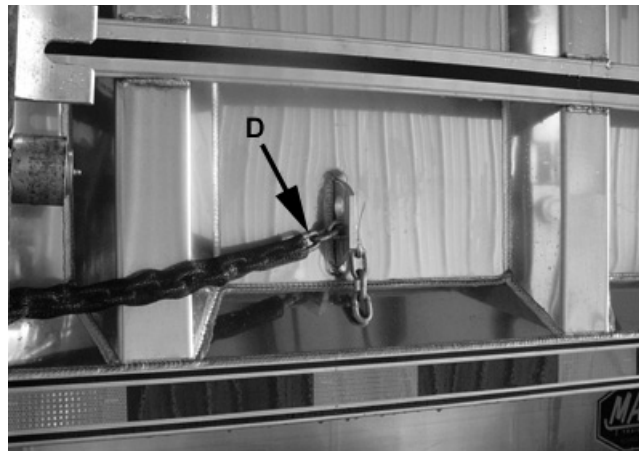

Figure 5-3 Anchor Door In Open Position
4. Swing tail gate fully open and insert chain (D) into anchor. Chain must be tight to prevent damage to the door. See figure 5-3.